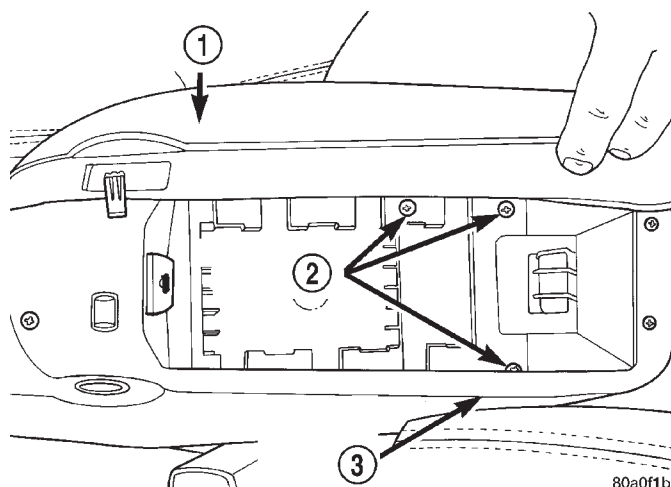

Fig. 123 Center Console Rear Attaching Screws
(2) Remove the 3 screws (Fig. 123) attaching the rear of the center console to the console bracket.